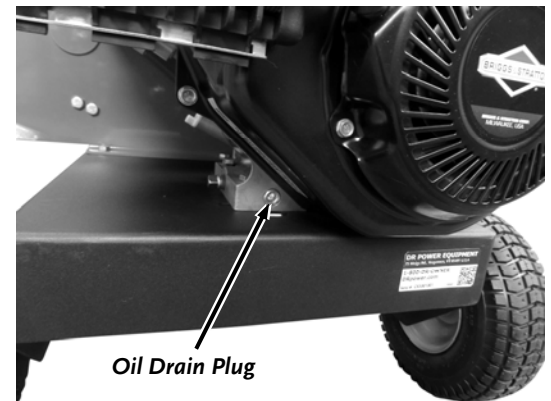

Figure 12
1. Remove the Oil Drain Plug at the front of the Engine using a 1/4" Allen Wrench allowing the used oil to drain completely through the drain hole and down into the Container (**Figure 12**).